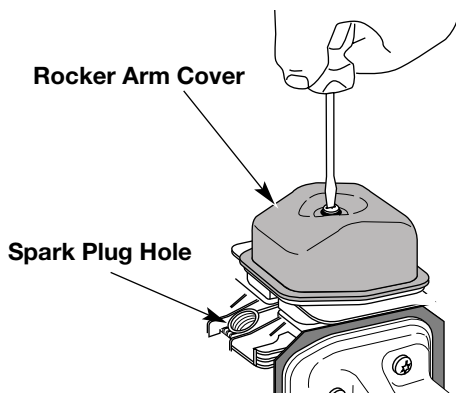

Fig. 52
- Clean dirt from around the rocker arm cover. Remove the screw holding the rocker arm cover with a large flat blade screwdriver or Torx T25 bit (Fig. 52). Remove the rocker arm cover and gasket.
- The piston is at the top of its travel while looking in the spark plug hole (Fig. 52).